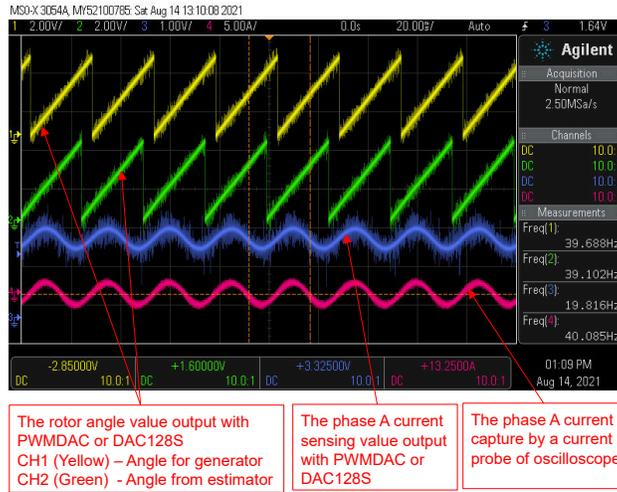

Figure 3-44. Build Level 3: Motor Rotor Angle and Phase Current Waveforms on Oscilloscope
4. Connect oscilloscope probes to the EPWMDAC or DAC128S outputs and motor phase line to probe the angles and current signals, and current. These waveforms on the oscilloscope appear as shown in Figure 3-44. Change the `motorVars_M1.Idq_set_A.value[1]` in the Expressions window to set the reference torque current, the motor phase current will be increasing with the same percentage accordingly.
Use DAC128S085EVM with an oscilloscope to monitor rotor angle of the motor from the angle generator and rotor angle from the FAST estimator, and a phase current of the motor as shown in Figure 3-44.